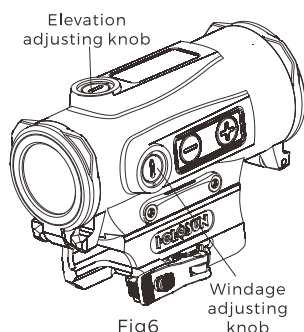

Fig6
1. On top of sight is the elevation adjusting turret, windage adjusting turret is on the right side (see Fig6). The sight has been factory adjusted for approximate zero.
- 2. The built in screw driver tool on the protective cap can be used for zeroing adjustment (see Fig6). See label inside cap.